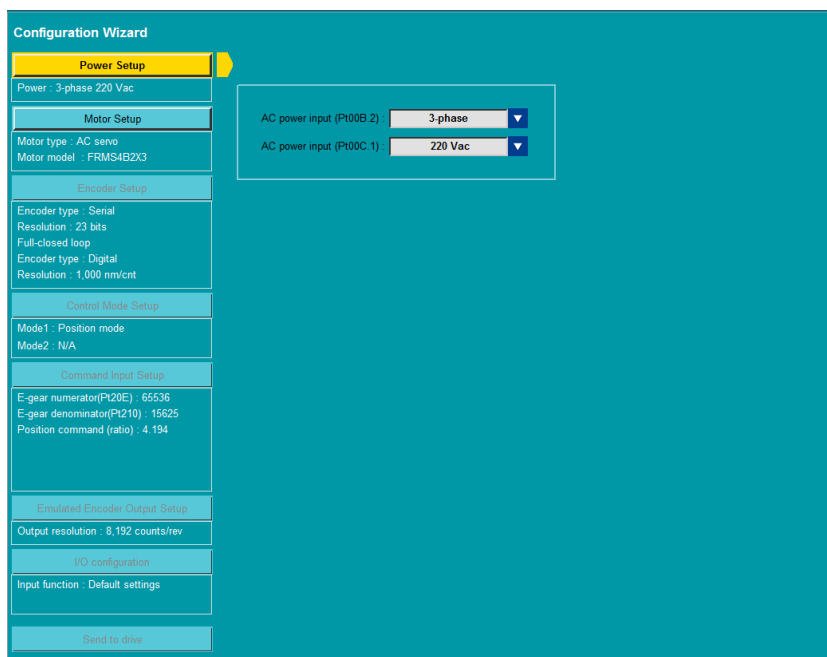

Figure 6.1.1.1 Configuration Wizard in Thunder
- It is suggested to set setup parameters via Thunder. Users can follow the instructions given by Configuration Wizard in Thunder to set control mode, I/O signals, and parameters for trial operation. Configuration Wizard in Thunder is shown in figure 6.1.1.1.